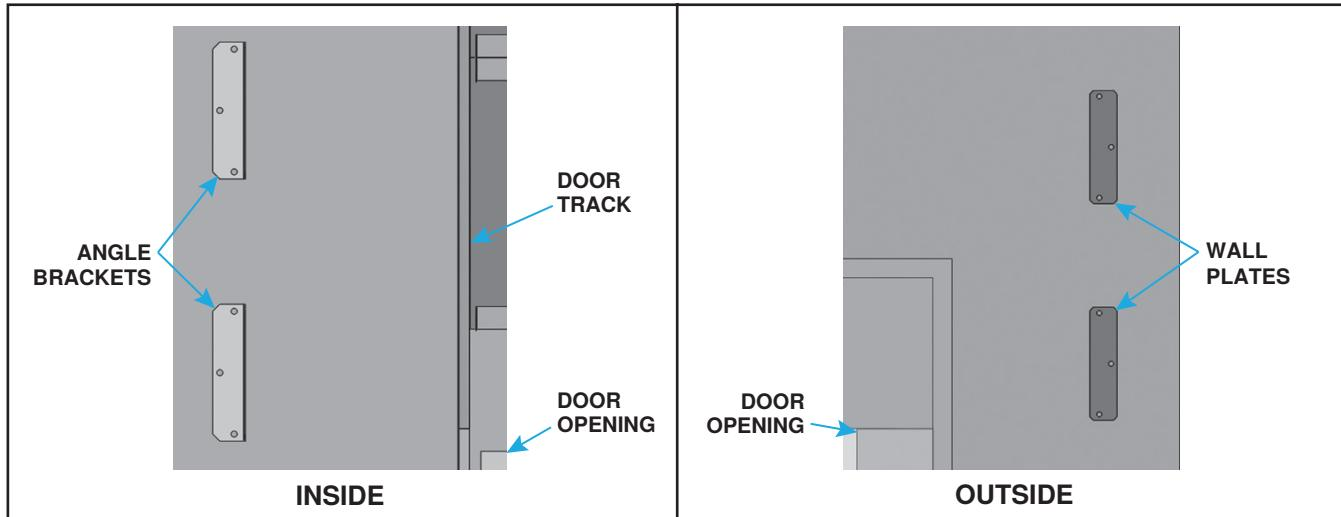

Figure 6. Inside Angle Brackets and Outside Wall Plates
4. Using suitable lift or hoist, lift unit into position determined in step 3 and mark mounting hole locations for inside angle brackets and outside wall plates (see Figure 6). Drill holes through wall as necessary and secure angle brackets and wall plates using field-supplied 1/2-inch nuts, lockwashers, and bolts.